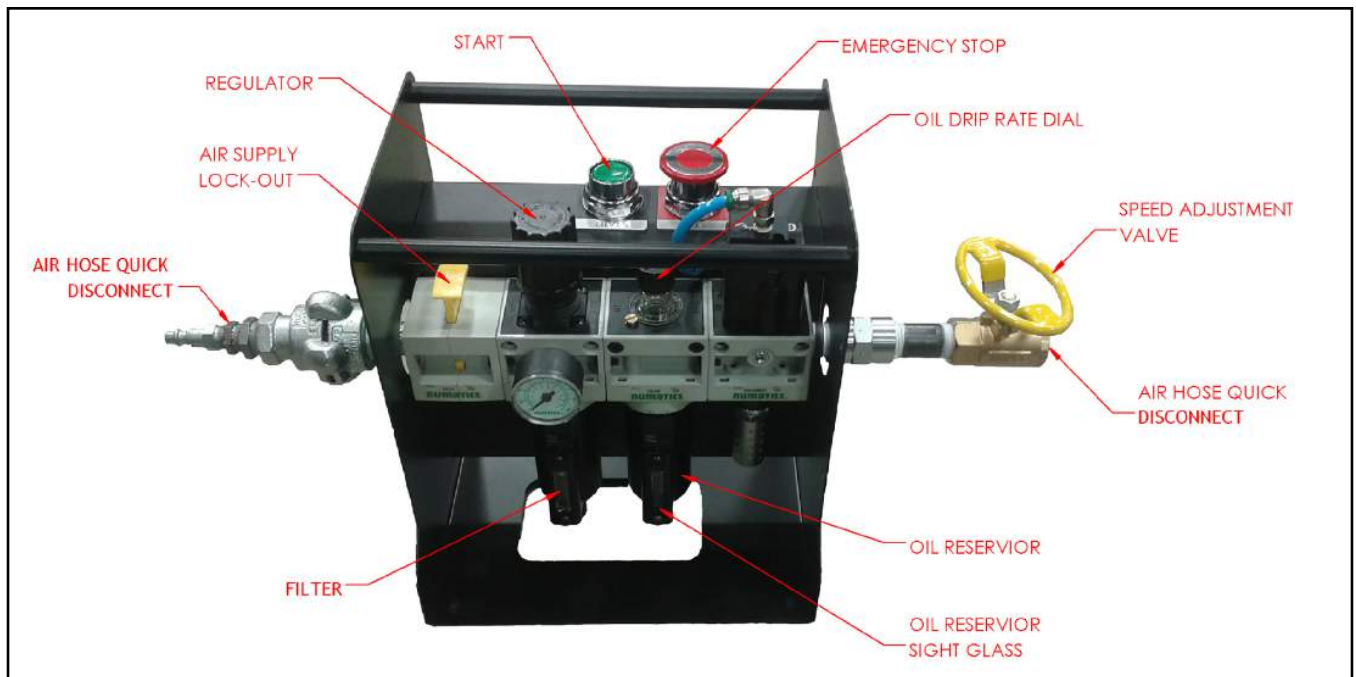

FIGURE 4-4. AIR CADDY CONTROLS
1. Complete these steps on the Air Caddy (shown in Figure 4-4):
5. Adjust the oil drip rate as needed (see Figure 4-4).
3. Press the AIR SUPPLY LOCK-OUT valve down to close it (seen in Figure 4-4). This will release residual air pressure in the Air Caddy circuit.
1. Check the Air Caddy oil reservoir sight glass (see Figure 4-4 on page 25). Refill as necessary.
2. Check that the air-supply lock-out is open (that is, pulled up). See Figure 4-4 on page 25.